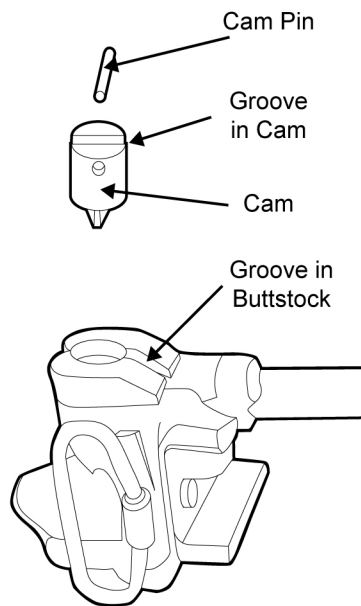

Figure 41. Removing the Cam and Cam Pin from the Side Folding Buttstock.
- a. Remove the release lever from the cam and remove the cam from the side folding buttstock. DO NOT remove the cam pin from the cam unless replacement is necessary. Remove cam pin by pushing it out of the cam with a punch. Refer to Figure 41.